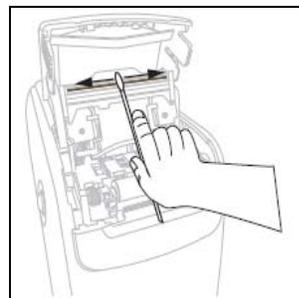

Figure 8
- 4f.) Refer to Figure 8. Using the swab from the Preventative Maintenance Kit or a swab dipped in the alcohol solution, wipe along the brown strip on the printhead assembly from end to end. Allow the solution to evaporate.